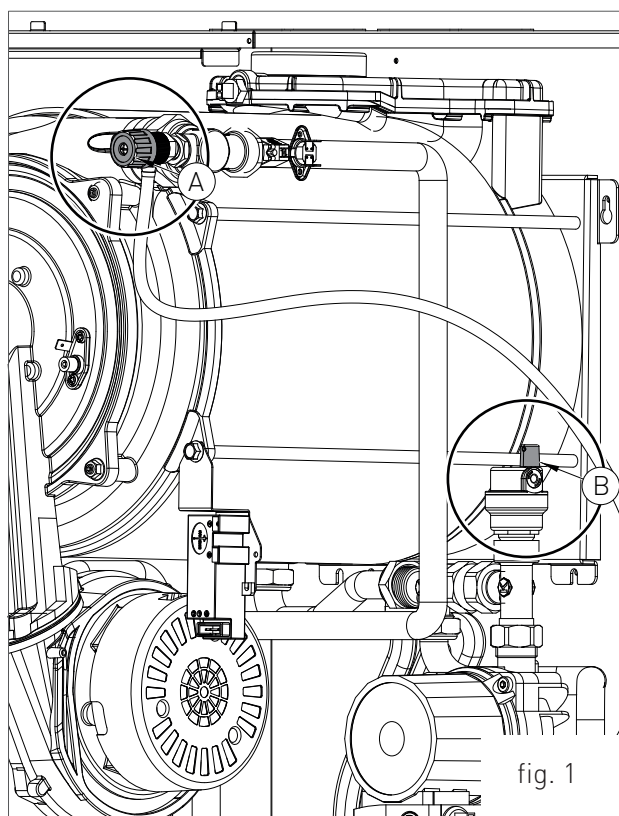

fig. 1
Please make sure all the air is flushed-off by means of the drain valve located within the unit (A - figure 1) and thru the air separator plug (B - figure 1).
- › Insert the fumes analyser probe in the suitable 'PF' fumes inlet (fig. 1), then make sure that the CO₂ value complies with the requirements indicated in chapter "Technical data", otherwise unscrew the protection screw 'A' (fig. 2) and adjust using a 4 Allen wrench the screw '2' (fig. 2) of the Off-Set adjuster. To increase the CO₂ value, turn the screw clockwise and vice-versa if you want to decrease it.